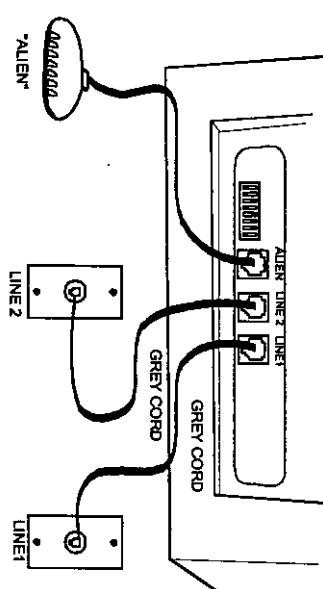

Figure 9. Internal Modem Connection
3. Plug one end of a gray telephone cord supplied with the modem into the LINE 1 jack on the back of the modem (Figure 9). Plug the other end of the cord into the telephone wall outlet for Line1.